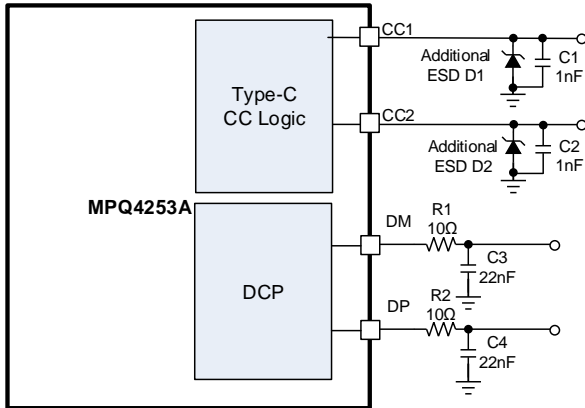

Figure 13: Recommended I/O Pins ESD Enhancing
ESD structures can withstand high ESD both in normal operation and when the device is powered off. To further extend the DP and DM pins' ESD level for covering complicated application environments, additional resistors and capacitors can be added (see Figure 13).
13) See Figure 13 for the I/O pins' ESD protection enhancing details.